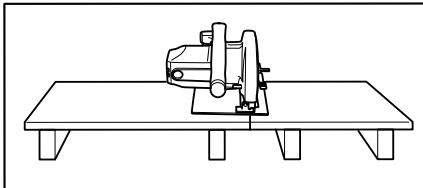

Fig. 1
9. Support Large Panels (Fig. 1 & 2). Large panels must be supported as shown in Fig. 1 to minimize the risk of blade pinching and kickback.
11. **Guard Against Kickback. (Fig. 1 & 3)**
Kickback occurs when the saw stalls rapidly and is driven back towards the operator. Release switch immediately if blade binds or saw stalls. Keep blades sharp. Support large panels as shown in Fig. 1.